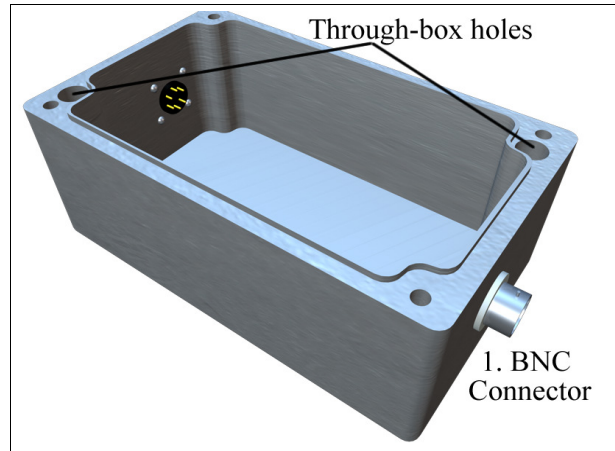

Figure 2-1: Enclosure & BNC Connector
1. A BNC connector (Figure 2-1) is used to attach the wave probe head coax cable to the AWP-24-3 electronics.